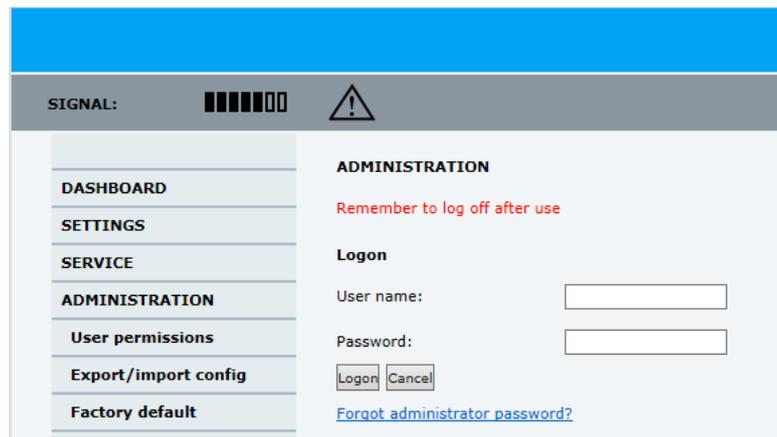

Figure 6-23: Web interface: Administration
3. Click the link **Forgot administrator password?** at the bottom of the **ADMINISTRATOR LOGON** page (see Figure 6-23: *Web interface: Administration*).